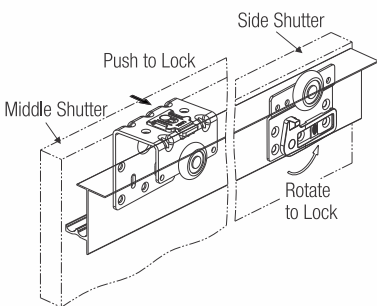

Fig. 4.
6. Hang the shutters to the top track & lock the shutters as shown in Fig.4.